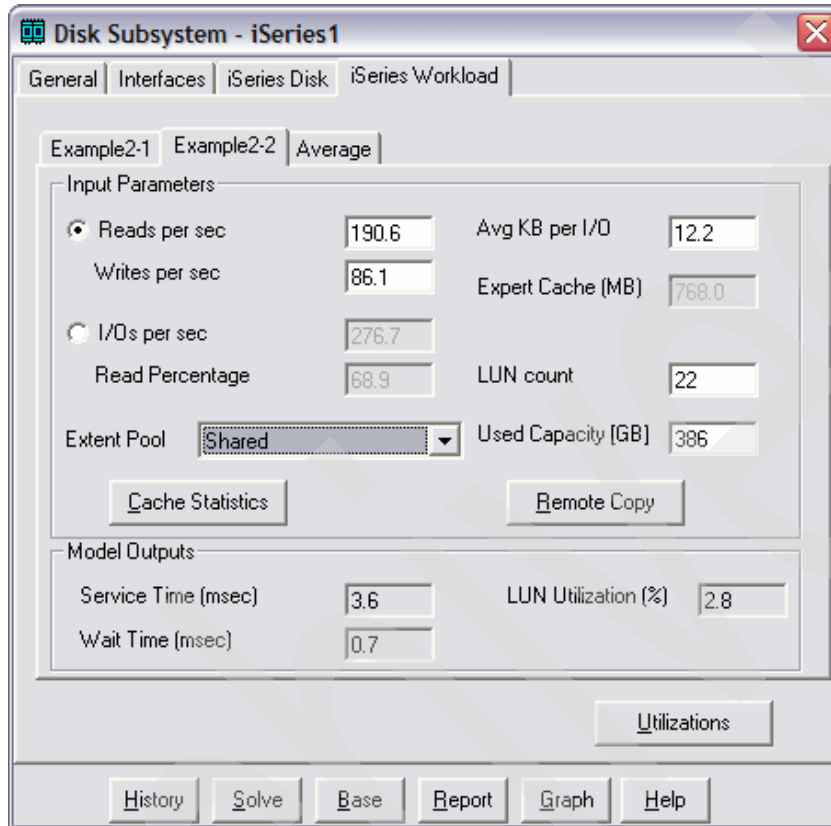

Figure 4-64 Inserting values for the second workload
- j. Select the tab with the name of the second i5/OS workload, which in this case is Example2-2 (Figure 4-64). Then, complete the following information: